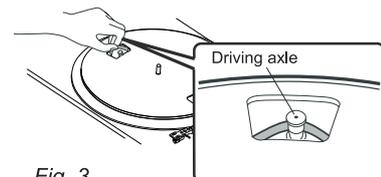

Fig. 3
4. The rubber driving belt is visible through the cutouts of the turntable platter. Seize the driving belt and place it over the driving axle (Fig. 3).